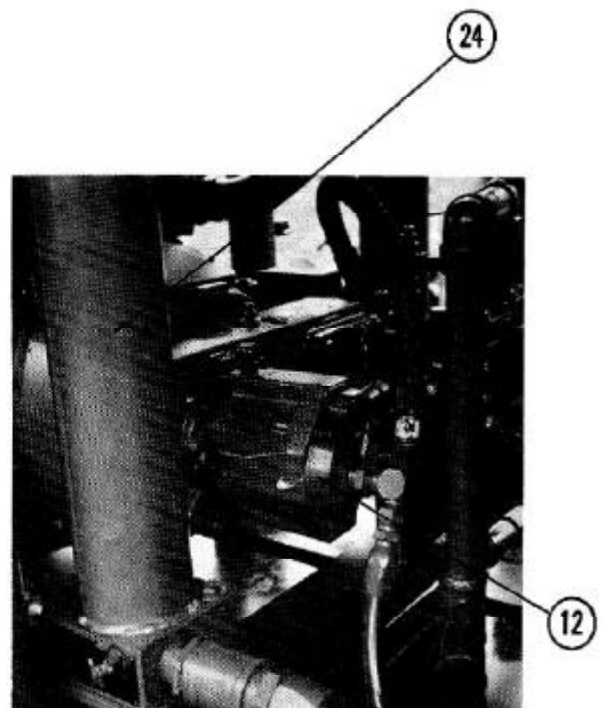

FIG. 20
1. The electrical control system is powered by two 12 volt batteries in series, or 24VDC. The schematic and connection diagrams, Fig. 20, Page 43 show the circuit and general arrangement.